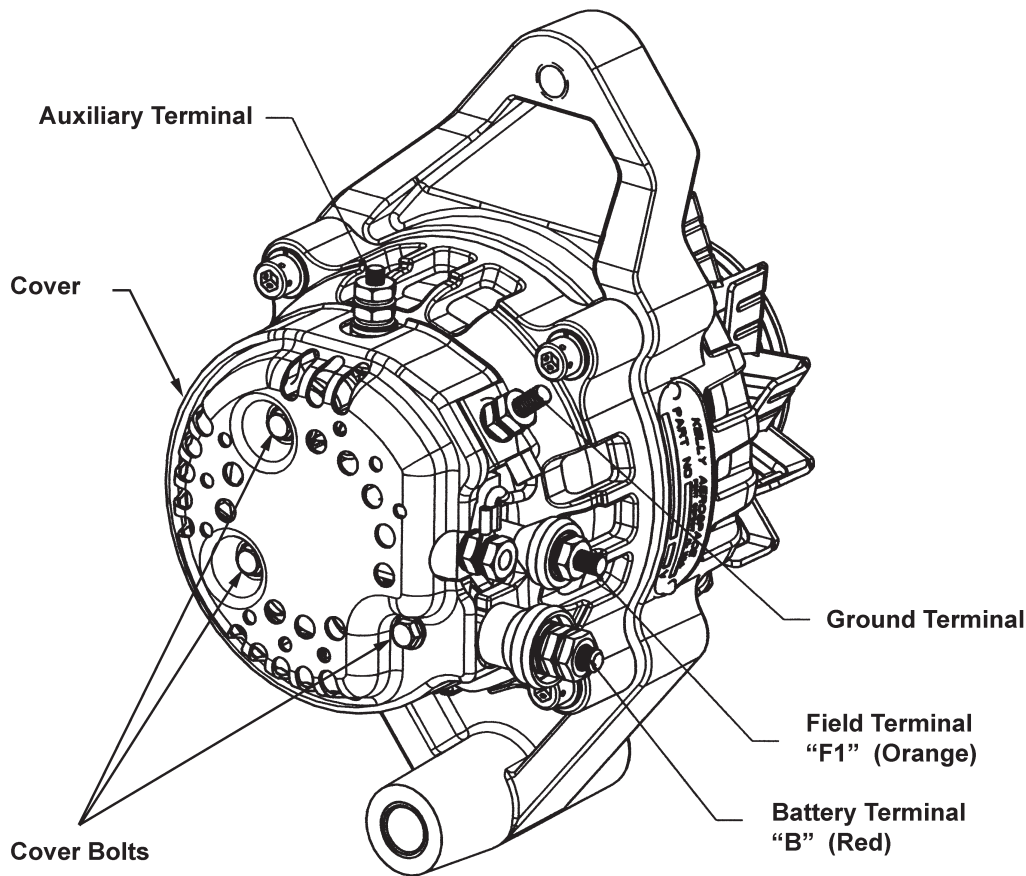

Figure 3 - Terminal Locations
9. Locate the auxiliary terminal "aux" (if used). It is not necessary to check the aux stud bottom nut unless found loose. If loose remove all hardware and check insulating shoulder washers for damage and replace as required. This will require removing the aft cover to access the aux terminal bolt. This may be done by removing the second nut (and electrical terminal if connected) on the "B" terminal and loosening the first nut on the "B" terminal. Remove the three bolts holding the cover on as shown below. Re-install as removed, the auxiliary terminal bolt, jumper wire electrical terminal, insulating shoulder washers, washer, and nut. Torque bottom nut to 10 -15 inch-pound. (1.12 - 1.69 N-m) while securely holding the aux bolt. (Be sure the internal aux wire remains connected between the insulating shoulder washer and bolt). Reinstall cover making sure that no contact is made with the aux terminal and cover. Torque cover bolts to 10 -15 inch-pound. (1.12 - 1.69 N-m) If cover was removed, repeat steps 7 and 8. Refer to Figure 3.
11. Locate the ground terminal. It is not necessary to check the ground stud bottom nut unless found loose. If loose, assure there is no damage and torque bottom nut to 25 - 35 inch-pound. (2.83 - 3.95 N-m) Refer to Figure 3.